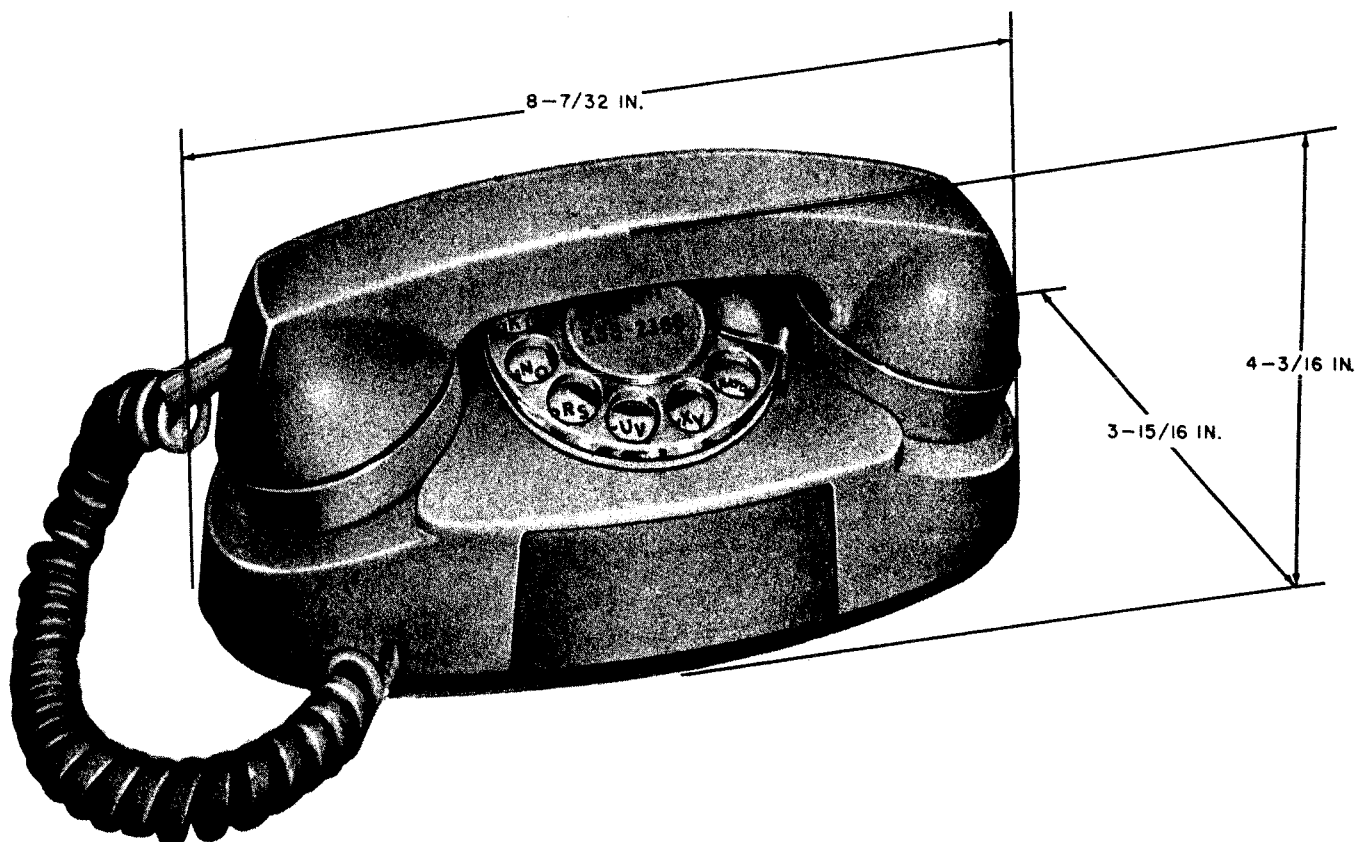

Fig. 1 — 700-Series Telephone Set
1.01 This section covers PRINCESS® telephone sets equipped with rotary dials (Fig. 1).